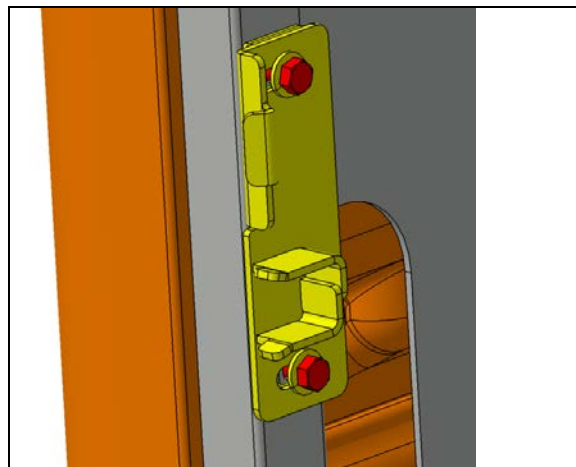

FIGURE 60
17. Perform the transversal adjustment by moving the strike plate using the slotted holes (FIGURE 60).